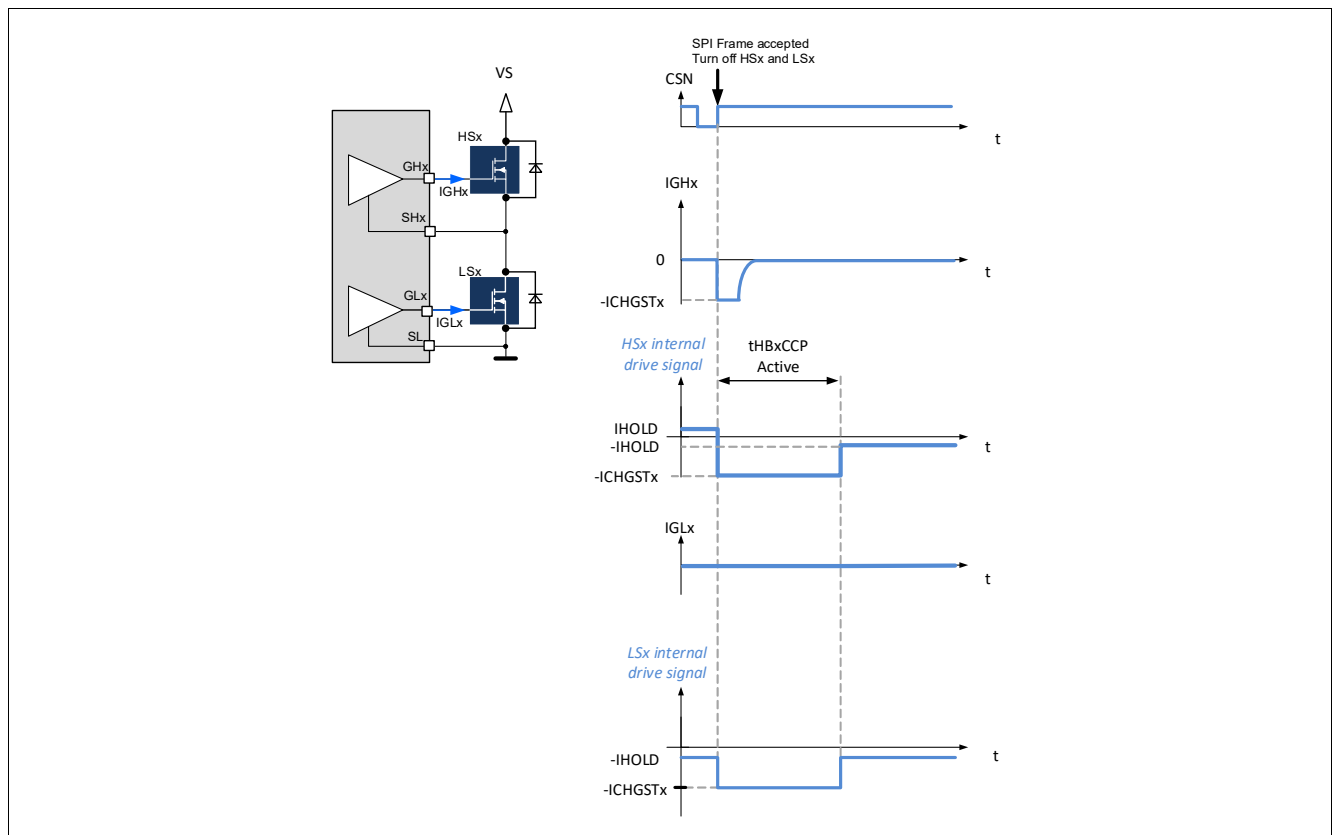

Figure 44 Turn-off of the high-side and low-side MOSFETs of a half-bridge
- The gate of HSx and LSx are discharged with the current $-\text{ICHGSTx}$ for the duration $t_{\text{HBxCCP ACTIVE}}$ (Figure 44).